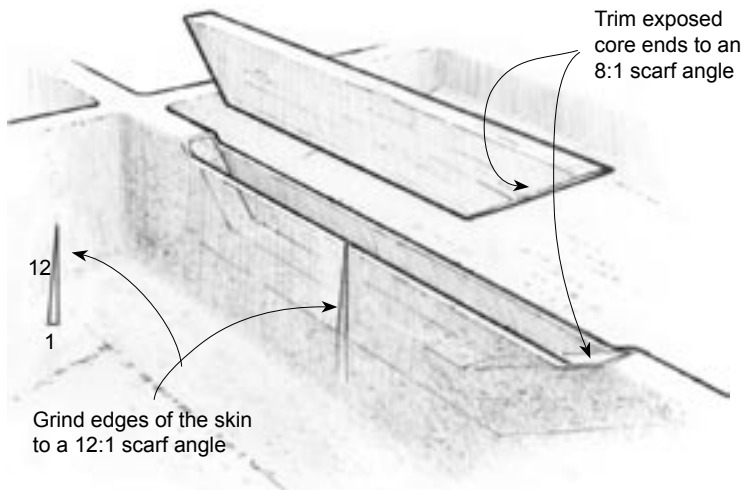

Figure 3-3 Trim a new piece of core material to fit the size and shape of the void in the existing core. The scarf may run vertically or horizontally.
1. Cut out the damaged section of the existing stringer. Remove as much laminate as necessary to remove the damaged core. Trim the exposed core ends to a minimum 8-to-1 scarf angle (*Figure 3-3*). The scarf may run vertically or horizontally.